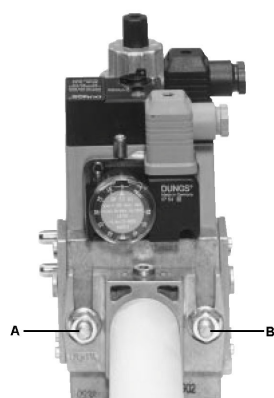
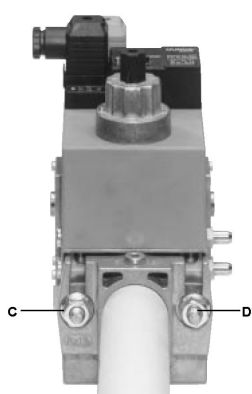
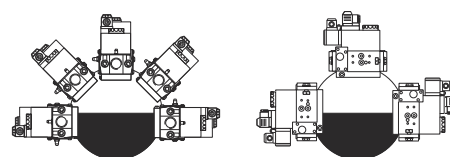

Fig. 5
Fig. 6
Fig. 8
3. tighten screws A, B, C and D (Fig. 5 - Fig. 6), according to the mounting positions (Fig. 8);
1. Loosen screws A and B **do not** unscrew (Fig. 5 - Fig. 6).
2. unscrew screws C and D (Fig. 5 - Fig. 6).
3. Remove MultiBloc between the threaded flanges (Fig. 6).